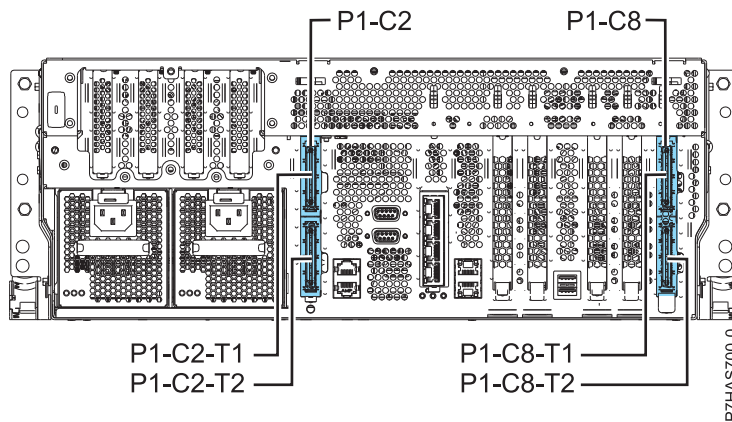

Figure 1. Rear view of the 8202-E4B or 8205-E6B showing GX++ adapter slots P1-C2 and P1-C8
- If the system has one processor chip module installed, the system supports only one GX adapter, which can only be installed in GX++ adapter slot 1 (P1-C2). If the optional PCI expansion unit is installed in the slot P1-C2, then the slot P1-C2 is unavailable for the GX adapter. See Figure 1 for the GX adapter slots and the location codes.